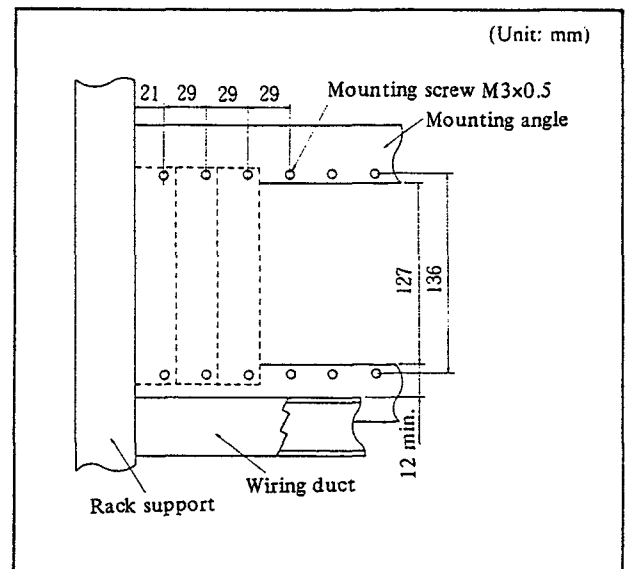

Figure 2. Direct Rack Mounting
- (1) When installing in the HB-16 Rack mounting enclosure, follow the Model HB-16 instruction manual.
- (2) When installing directly on an instrumentation panel, prepare mounting angles referring to Figure 2. When the transmitter is shielded with a metallic case, ground the case.